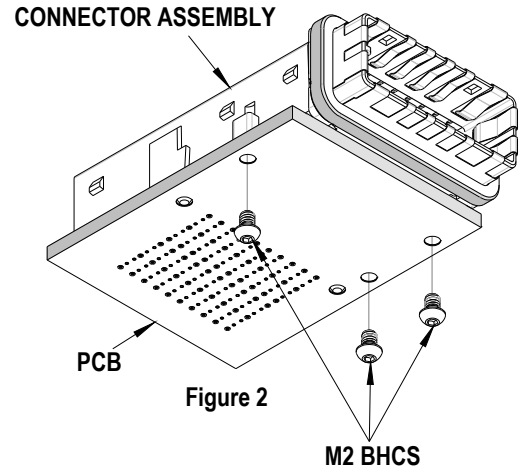

Figure 2
Holding the connector assembly to the printed circuit board from underneath are (3) M2 BHCS. Before any removal operation is done these M2 BHCS must be removed. See Figure 2. Remove the heat sink and cover if applicable.